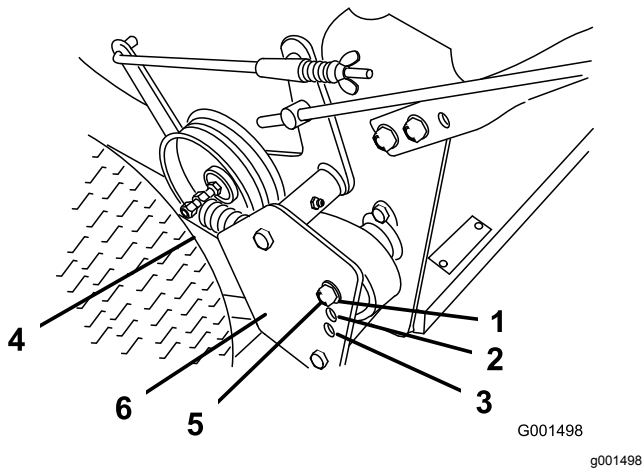

Figure 36
4. Remove the drive spring from the adjustment bolt (Figure 36).
5. Remove the locknut securing the adjustment bolt to the drive pulley shield (Figure 36).
Note: The wheel drive tension is lowest when the bolt assembly is in position A. The tension increases in positions B and C (Figure 36).